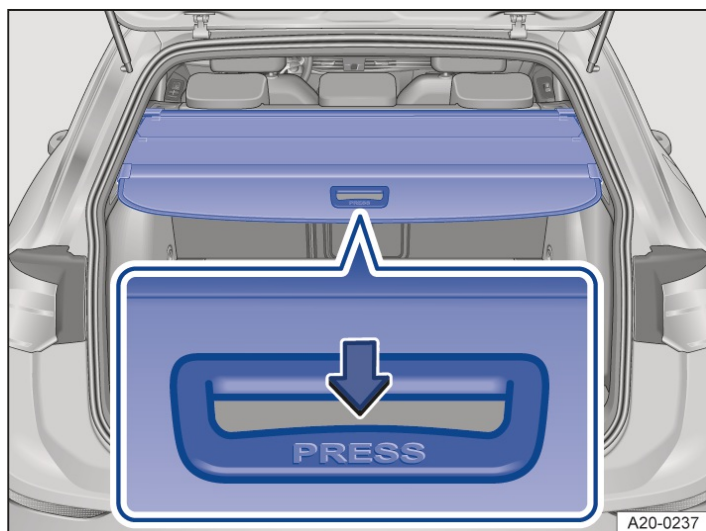

Fig. 1 In the luggage compartment: open the luggage compartment cover (general example).
1. Press the rear section of the luggage compartment cover downwards in the direction of the arrow → *fig. 1*. The luggage compartment cover opens automatically to the center of the luggage compartment.